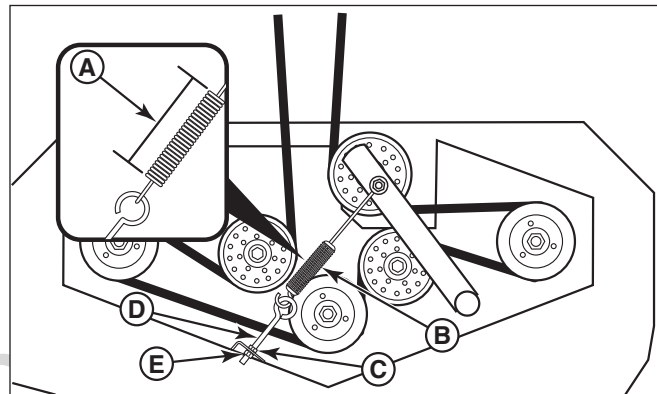

Figure 49. Mower Belt Idler Tensioning Spring (72" Models)
3. Measure the coil length (**A**, **Figure 49**) of the mower belt idler tensioning spring (**B**). The measurement should equal 7-1/4" ± 1/8" (18.42 cm ± .32 cm). If not, perform the Adjust the Mower Belt Idler Tensioning Spring Length.
1. Loosen the jam nut (**C**, **Figure 49**) on the eye bolt (**D**).
5. Run the mower under no-load condition for about five (5) minutes to break in the new belt.